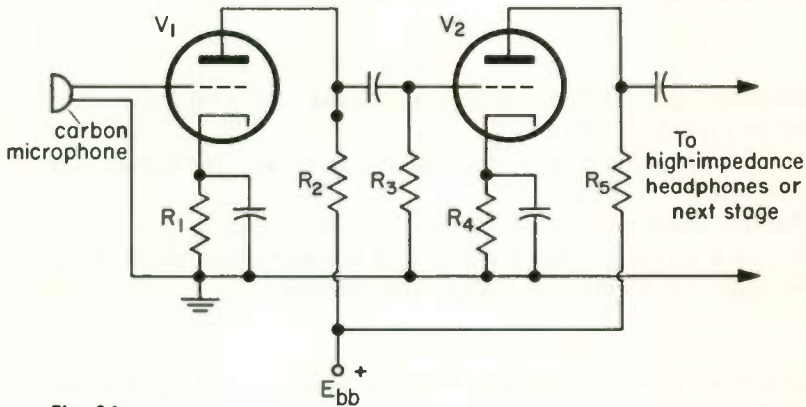

Fig. 36
- (1) Exposed to high temperatures
- (2) Exposed to loud shouts (close up)
- (3) Exposed to lights
- (4) All of the above
21. The circuit of Figure 36: